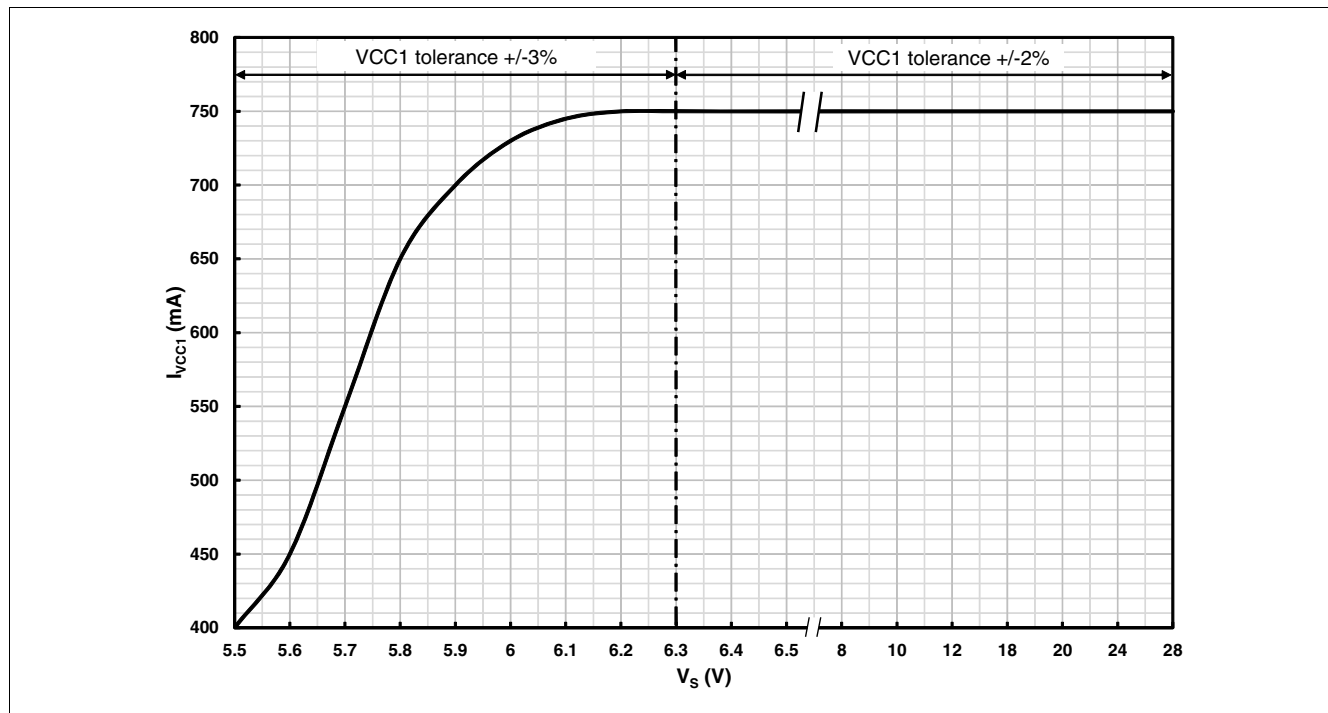

Figure 13 Maximum DCDC buck current capability versus V_S .
- 1) Typical maximum current capability is given in Figure 13. The external components are in accordance with the application information (refer to Chapter 15).
Note: The Figure 13 is based on characterization results over temperature with external components specified in Chapter 15.1.